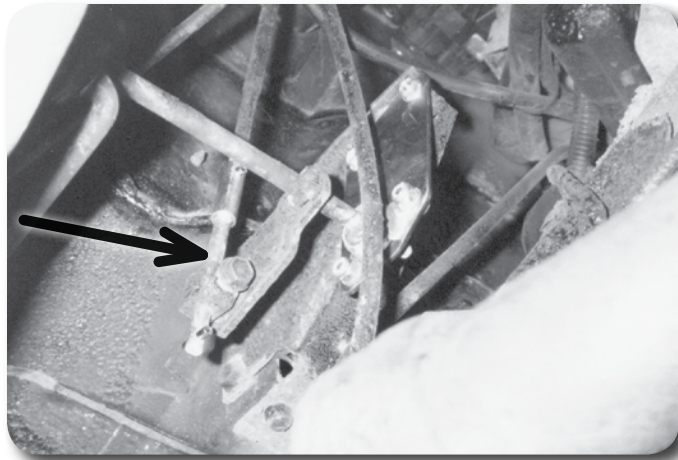

Figure 8
39. Install the upper shift linkage to the pivot assembly **Figure 8**.